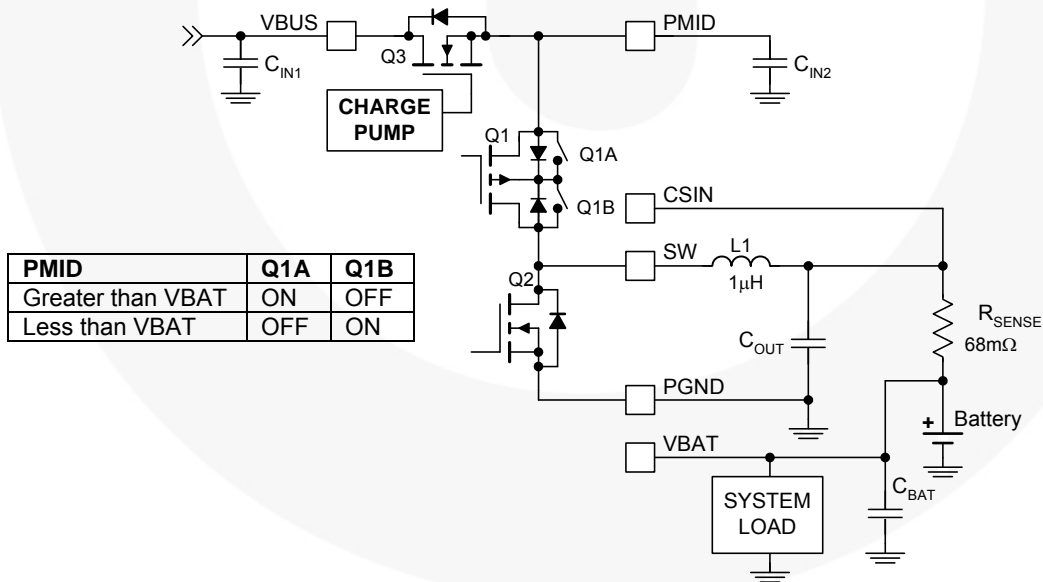

Figure 3. Power Stage
2. 6.3 V rating is sufficient for C_{MID} since PMID is protected from over-voltage surges on VBUS by Q3 (Figure 3).